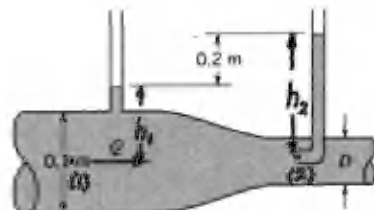

FIGURE P3.14R
3.14R (Flowrate) Water flows through the pipe contraction shown in Fig. P3.14R. For the given 0.2-m difference in manometer level, determine the flowrate as a function of the diameter of the small pipe,  $D$ .